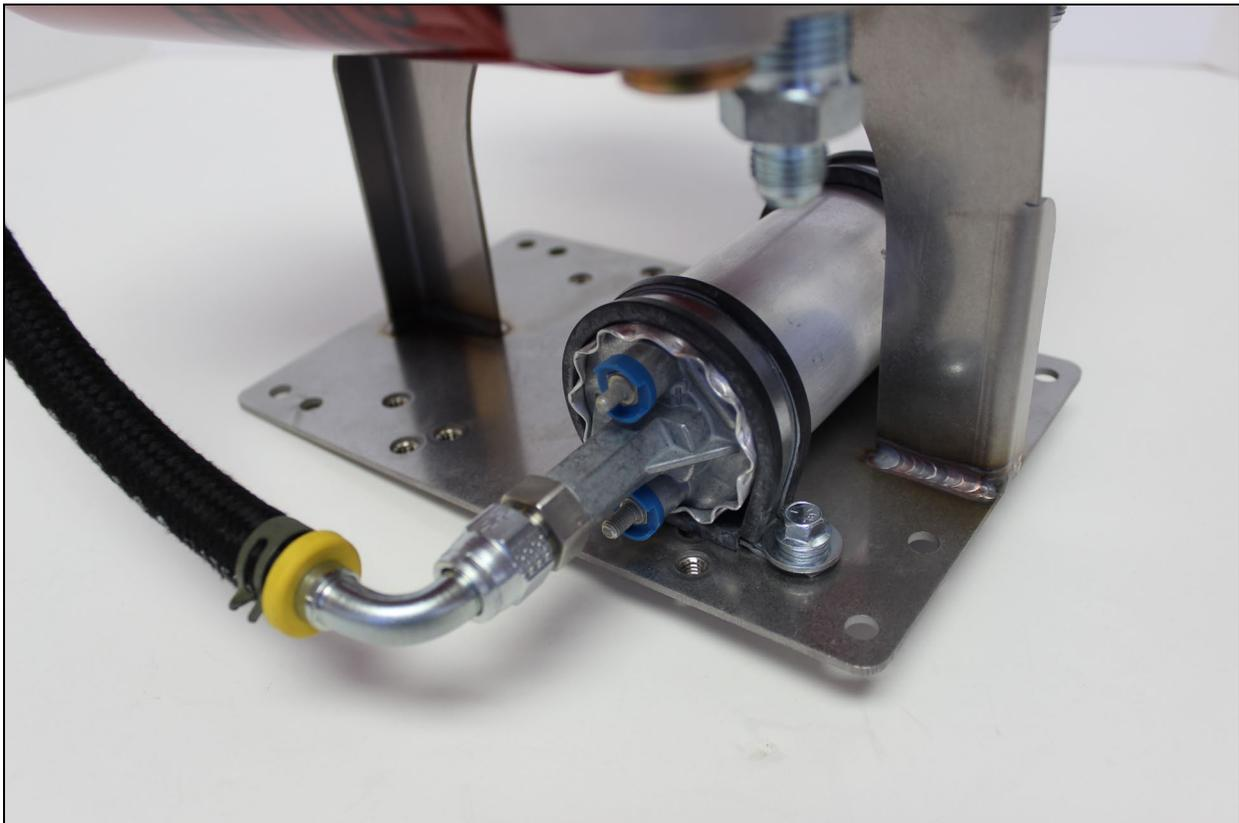

FIGURE 1 – FUEL PUMP MOUNTING & FUEL OUTLET HOSE CONNECTION
1. Install the fuel pump onto the mounting bracket using the (2) rubber isolated clamps, (2) 1/4-20 x 1" Flange Bolts, (2) 1/4" Flat Washers and (2) 1/4" Lock Washers. Make sure you pay attention to the orientation of the pump, the inlet nipple will point to the left when viewing the bracket from the pump side. This would be a good time to install the DD-10mm-06MJ fuel pump outlet adapter fitting. See FIGURES 1 & 2.